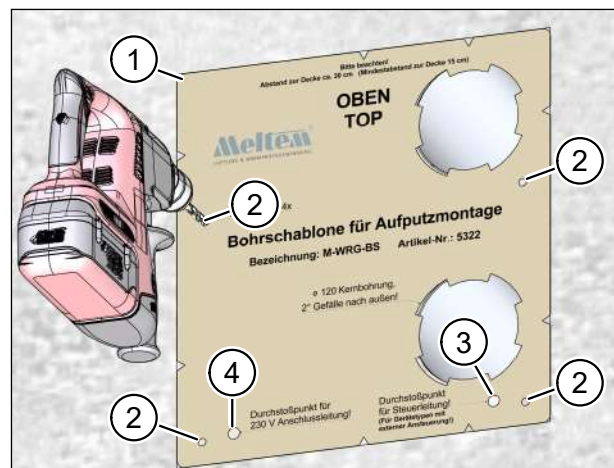

Fig. 19: Holes for dowels and marks for connecting cables
- ▶ Position the drilling template (item 1 in Fig. 19) precisely over the two core drill holes.
- ▶ Mark the four holes (item 2 in Fig. 19) for the dowels for fixing the ventilation unit to the internal wall.
- ▶ Mark the position of the cable outlet for the mains cable (item 4 in Fig. 19) of the ventilation unit. This mark identifies the end of the wall channel that needs to be chased out for the mains cable.
- ▶ Mark the position of the cable outlet for the control cable (if used) (item 3 in Fig. 19) of the ventilation unit (only for ventilation units with a control cable connection, see Table 4 on page 29). This mark identifies the end of the wall channel that needs to be chased out for the control cable.